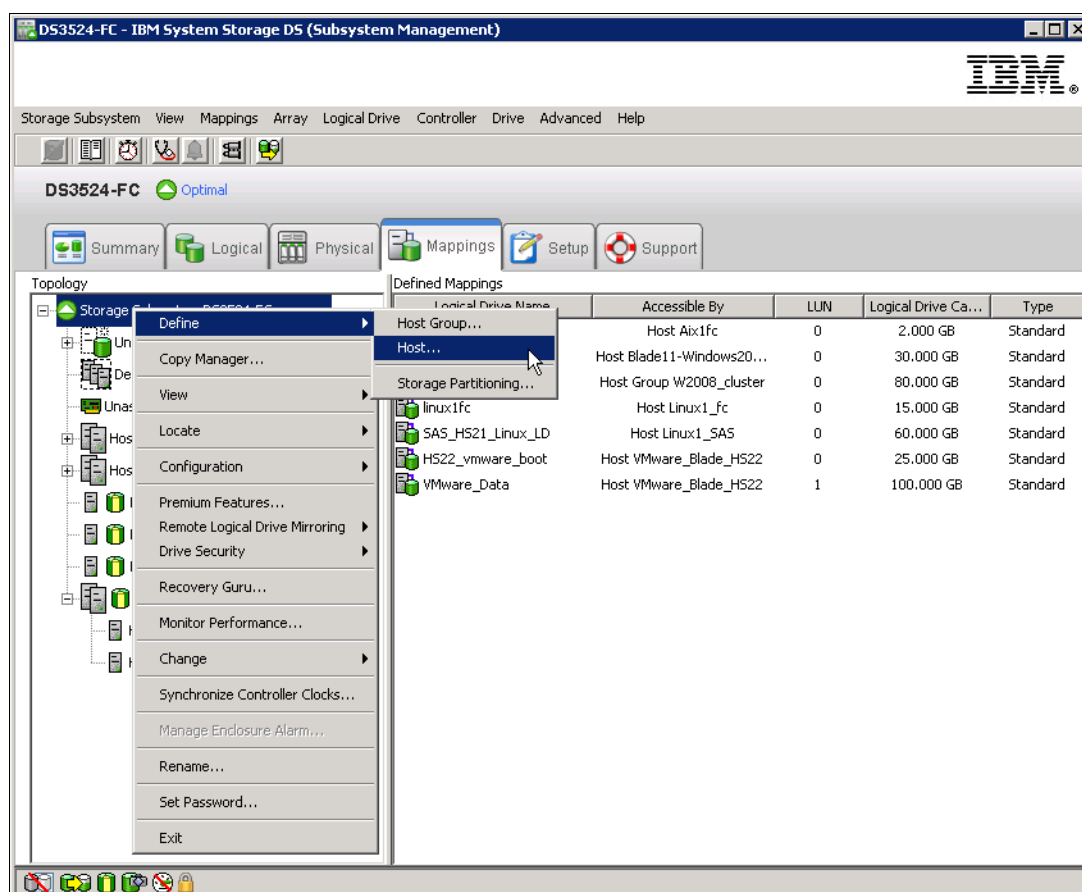

Figure 11-3 Define Host menu
1. Right-click your Storage Subsystem icon, right-click the Default Group icon, or right-click an existing Host Group. In the menu that appears, select **Define** → **Host** as shown in Figure 11-3 on page 278. Even with no host group created, it is easier to create the hosts first and then the host groups. In the Figure 11-3 on page 278 you can also see that all